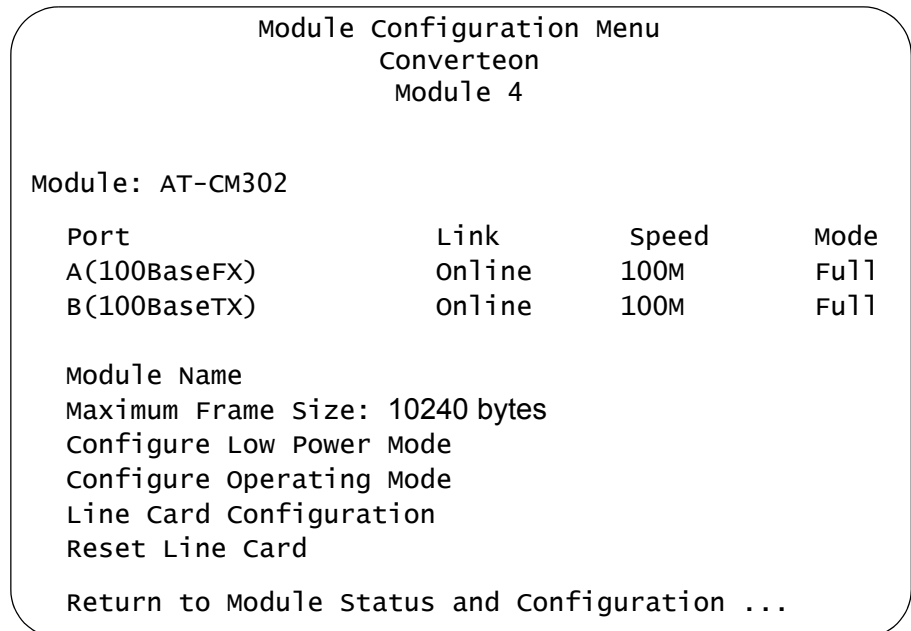

Figure 63. Module Configuration Menu (Media Converter Line Card)
2. From the Module Status and Configuration menu, select the AT-CM Line Card you want to view. You can view only one line card at a time. The Module Configuration Menu in Figure 63 on page 169 is displayed.
An example of the menu is shown Figure 63. The example is from an AT-CM3 Line Card. The AT-CM2 and AT-CV Line Cards have fewer menu selections.
2. From the Module Status and Configuration menu, select the line card you want to configure. You can configure only one line card at a time. This displays the Module Configuration Menu in Figure 63 on page 169.